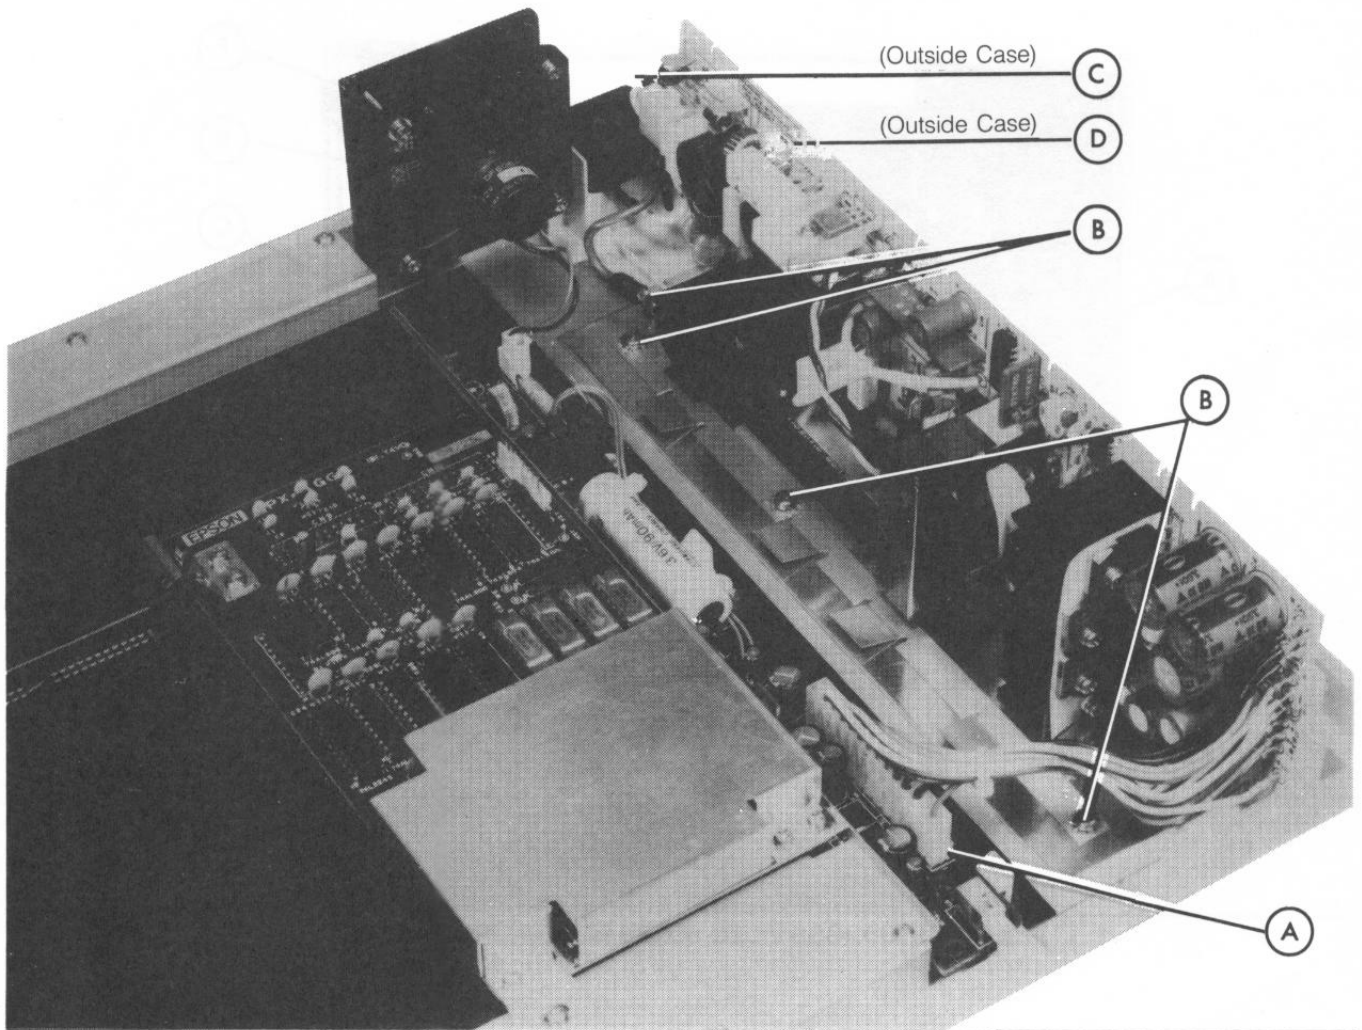

FIGURE 4-2. Q10PS POWER SUPPLY BOARD REMOVAL/REPLACEMENT
2. Install the four Phillips screws (D) and two caps (C).
3. Install the option port shield (B) and the option cover; secure the cover with two screws (A).
4.2.3 Q10PS Power Supply Board Removal (Figure 4-2)
4.2.4 Q10PS Power Supply Board Replacement (Figure 4-2)